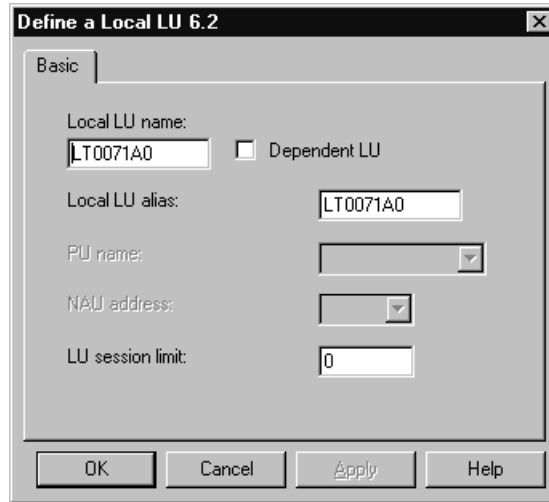

Figure 107. Define a local LU 6.2
- 2 Enter all the entry fields as shown in Figure 107.